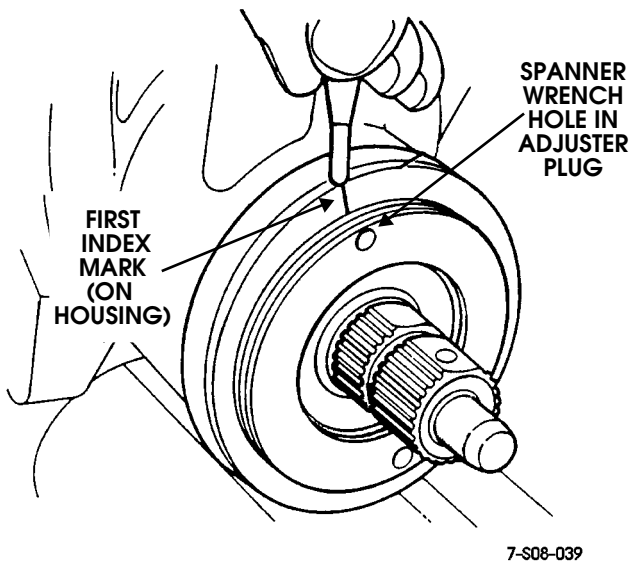

Figure 8-65: Placing First Index Mark On Housing
5. Scribe an index mark on gear housing in line with one of the adjuster plug spanner wrench holes (Figure 8-65). This will be the first index mark.